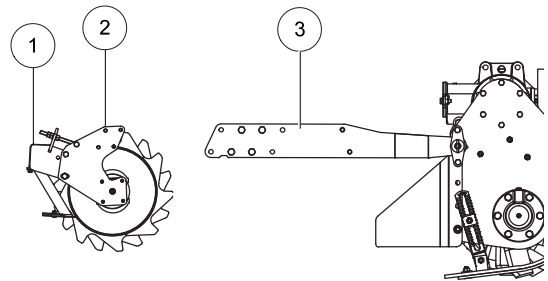

FIG. 8
- Impede the rotation of the scraper holder bar (1, "Fig. 8").
- Place the roller on the ground with the support plates (2, "Fig. 8") set in the assembly direction.
- Sustain the roller holder bar (3, Fig. 8) with proper supports to prepare the fitting of the roller